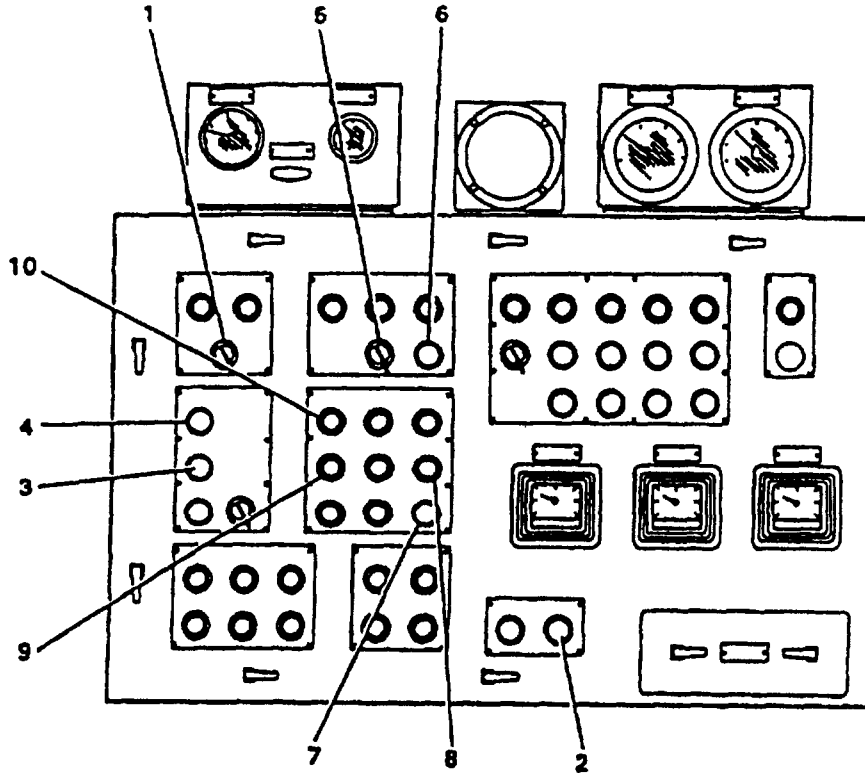

Figure 2-37. Main Control Panel Checks
(8) Main control panel (Figure 2-37).